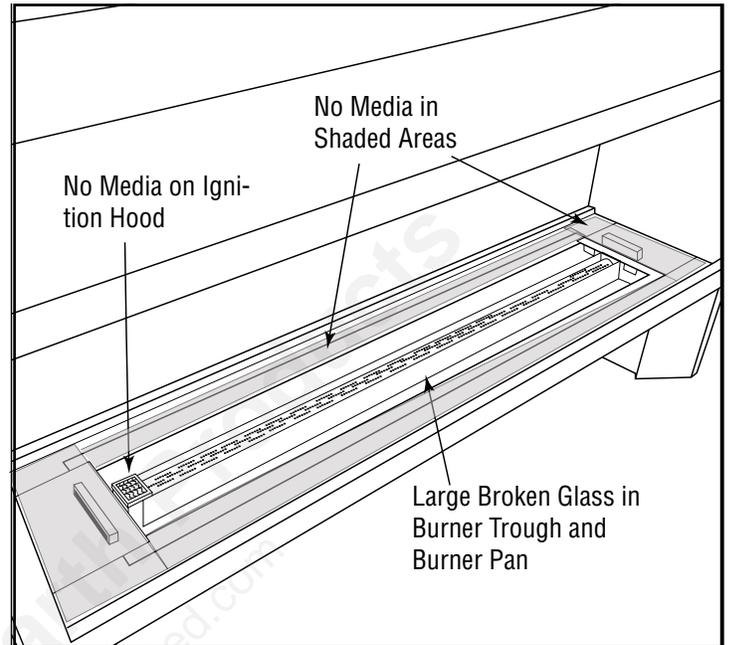
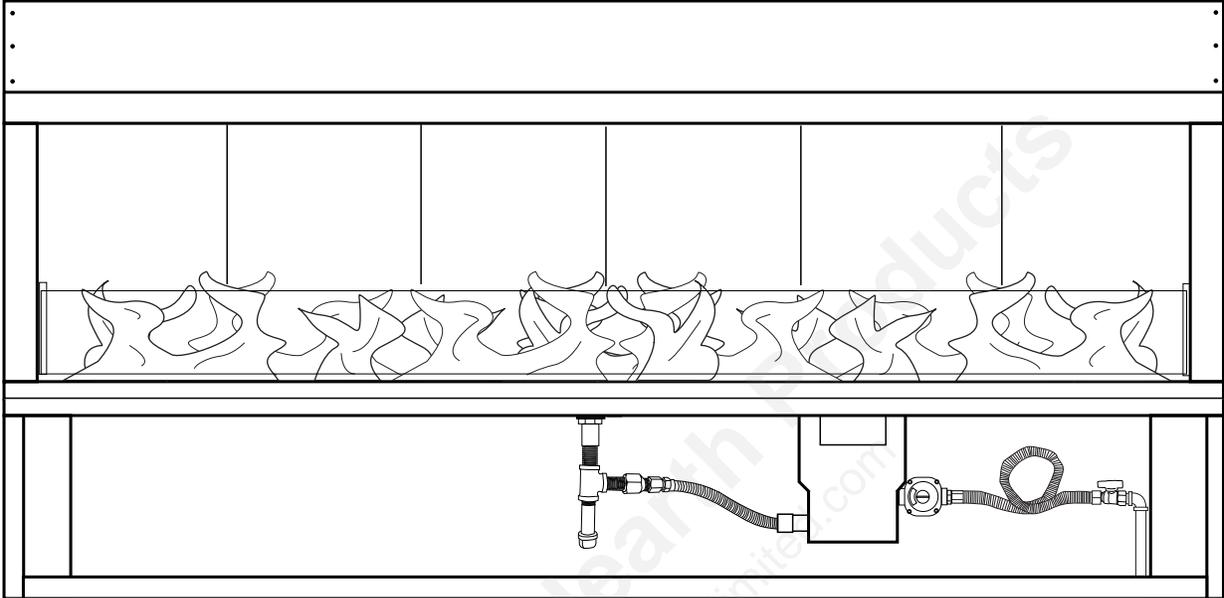

Figure 35 - Covering the entire fireplace floor is **NOT** permitted in the shaded area
Figure 39 - Proper flame height
IMPORTANT: Media can only be placed in the trough and burner pan area. No media is to be placed into the shaded area shown in **Figure 35**.
Proper flame height (**Figure 39**) should be at the top edge of glass windshield (peaking above at times) while on HI setting. The LO setting will be at least half of the height of HI or maybe lower. There can be a variance in flame height between Natural gas and Liquid Propane (LP) gas models.
Inspect Burner Flame and Pilot Flame Appearance Periodically do a visual check of the burner flame and the pilot flame. Ensure that the burner flame appearance resembles the flame shown in *Figure 39, Page 27*. Refer to *Figure 35 on Page 25* for more information about the pilot flame appearance. Contact a qualified service technician at once if any abnormal condition is observed.
Fireplace Won't Light	<ol style="list-style-type: none"> 1. Bleed gas line. 2. Ensure all gas lines are turned ON. 3. Ensure there is not too much media overtop the burner, it can inhibit the gas flow. Too little or no media can also contribute to non-lighting. 4. Ensure adaptor is plugged in. 5. Verify 120VAC power at junction box under burner pan. 6. Media blocking pilot hole. See Figure 35 on Page 25.
Fireplace Won't Stay Lit	<ol style="list-style-type: none"> 1. Check alignment of pilot flame through ignition hole on Page 25, Figure 35. 2. Thermocouple reading should be between 10-20mV. Test at the brass ground lead on gas valve and the gold lead at "S" terminal on the control module. If no minimum millivolts are maintained replace the TC. Must test with pilot running to obtain readings. 3. Check continuity of thermocouple. Using a volt meter remove the TC test lead "S" from the control module and the brass fork terminal from the gas valve. Test for continuity. If no continuity then replace the TC. 4. Ensure thermocouple is clean and free of any debris. Excessive soot can be an issue.